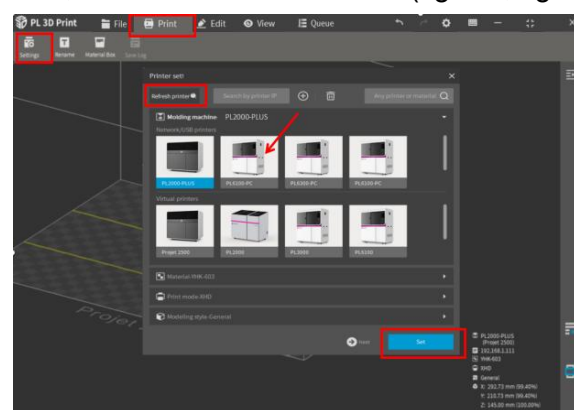
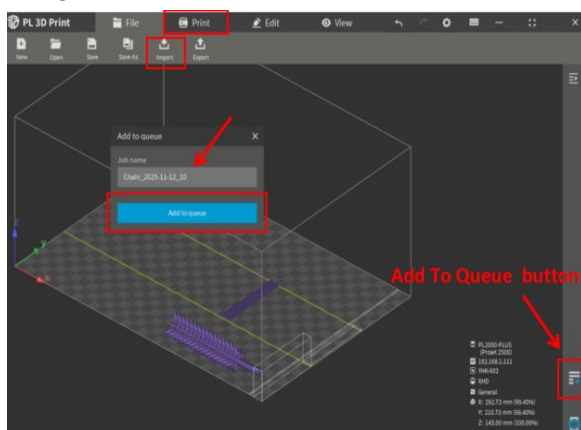

fig. A-4 Connect Printer
fig. A-5 Add to Queue
Click **Print > Settings > Refresh** , select your printer, then click **Set** to connect (fig.A-4, fig.A-5)
- Import the **.stl** file via **File > Import**, click **Add to Queue**, enter a filename, click **Add to Queue** again to send it to the printer, and it appears in the **Print Queue** waiting list (figs. A-5, A-6).